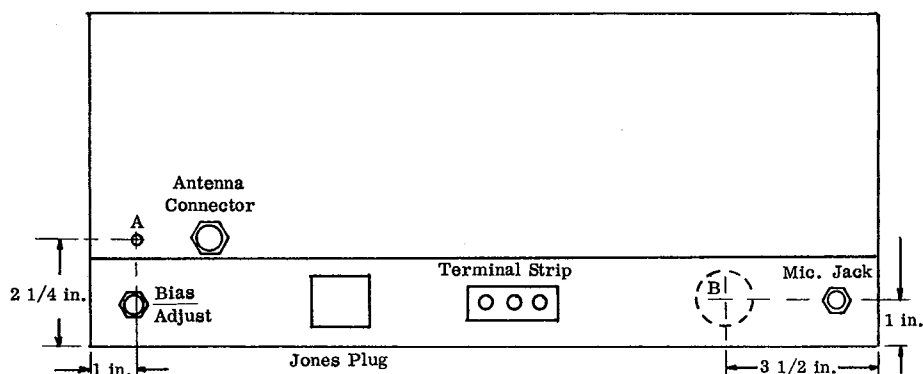

FIGURE 3 LOCATION OF DRILL POINTS ON REAR PANEL OF TRANSCEIVER.
1. Locate drill points A and B on rear panel of transceiver as shown in Figure 3.